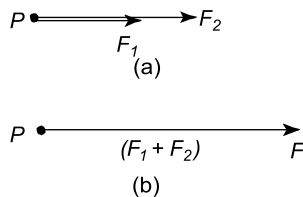

Figure 5.5
- (a) For forces acting in the same direction and having the same line of action, the single force having the same effect as both of the forces, called the **resultant force** or just the **resultant**, is the arithmetic sum of the separate forces. Forces of F_1 and F_2 acting at point P , as shown in Figure 5.5(a), have exactly the same effect on point P as force F shown in Figure 5.5(b), where $F = F_1 + F_2$ and acts in the same direction as F_1 and F_2 . Thus F is the resultant of F_1 and F_2